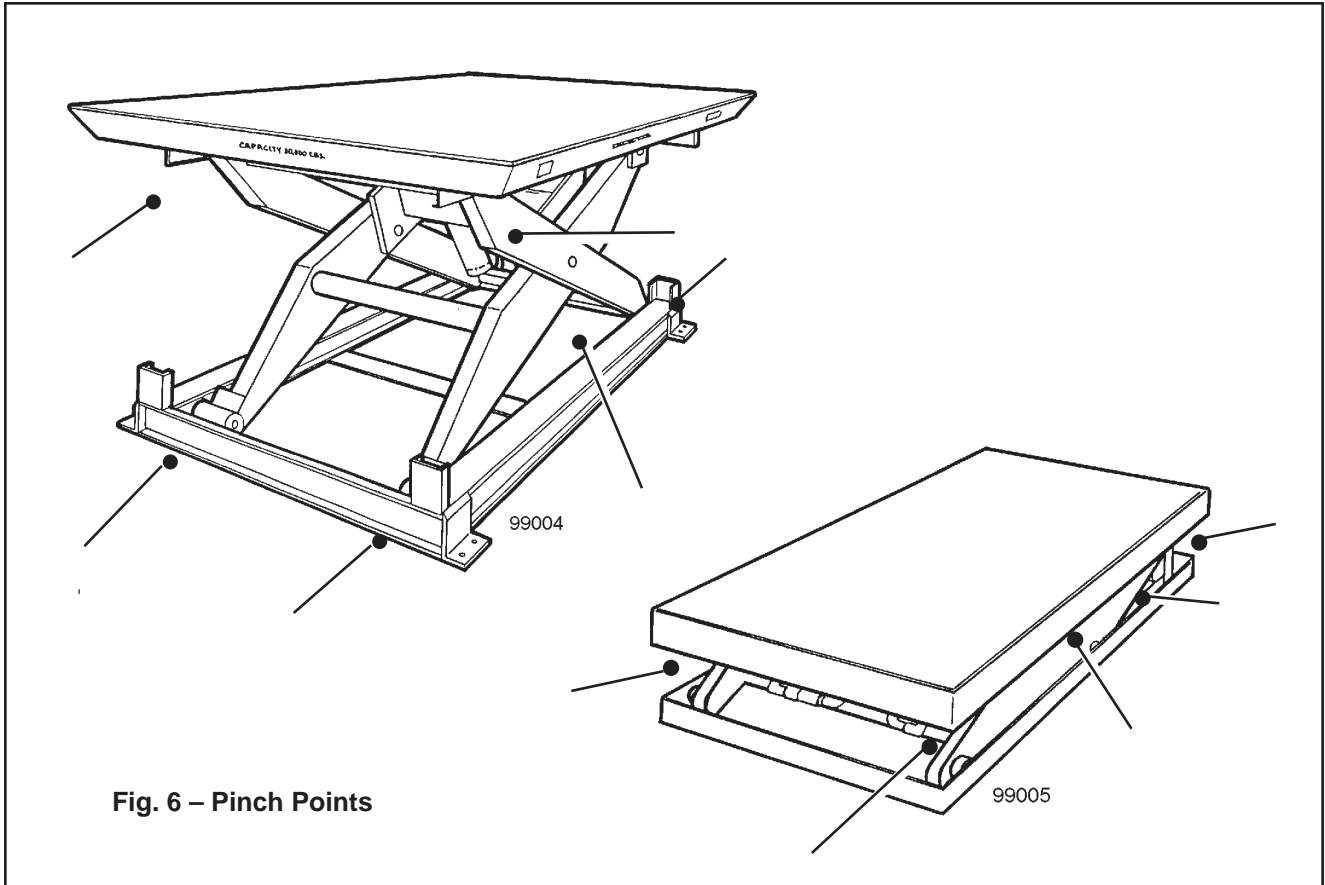

Fig. 6 – Pinch Points
As the lift table moves up and down, “pinch points” are created at the places shown in Figure 6. If you are standing too close to the lift when it is moving, your arm or leg may be caught in the moving parts, and you may be hurt. Stay away from the pinch points when the lift is moving.
As the lift table moves up and down, “pinch points” are created as shown in Figure 6. Stay away from these pinch points! Part of
- As the lift moves up and down, "pinch points" are formed as shown in Figure 6. Keep hands, feet, and loose clothing away from these pinch points. If your hand or arm or a part of your clothing is caught, you may be hurt.